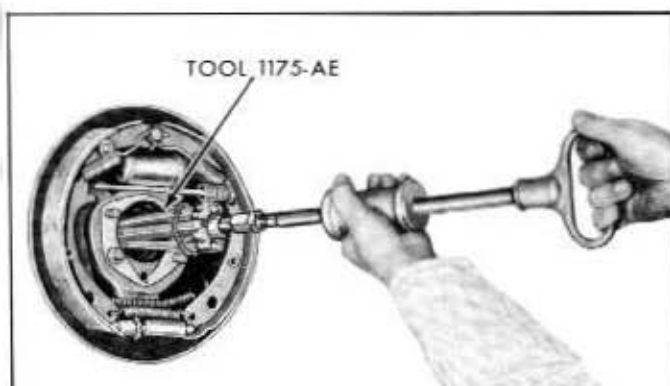

Fig. 4-12—Axle Shaft Seal Removal—(60C-5203)
7. If the axle shaft oil seal is to be replaced, remove the seal with Tool 1175-AE as shown in figure 4-12.